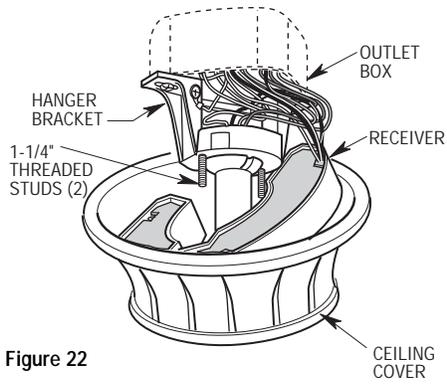

Figure 22
- 6. Screw two 1-1/4" threaded studs (supplied in the loose parts bag) into the tapped holes in the hanger bracket (Figure 22).